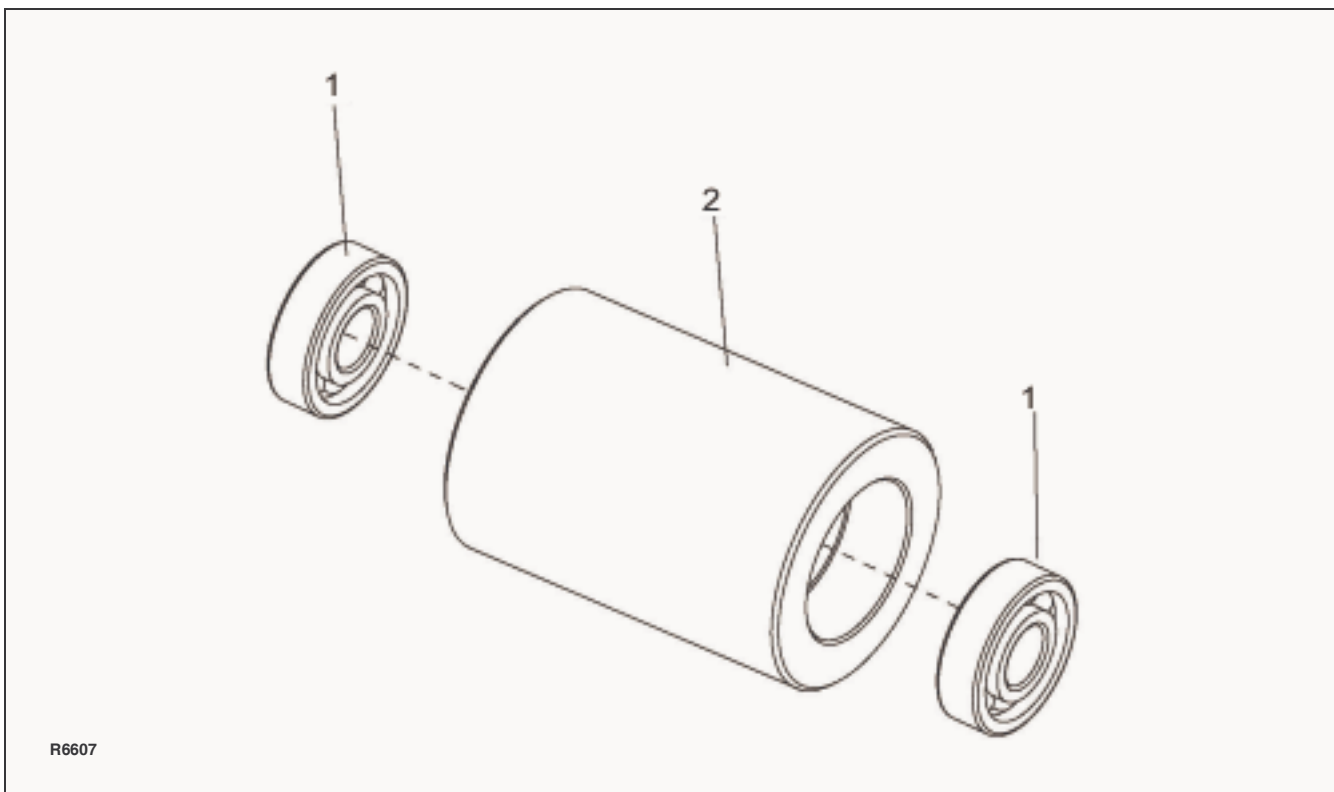

Figure 7-2 Wheel Assembly
6. Remove bearings (1, Figure 7-2) from wheels (2).
7. Inspect bearings (1) and replace if necessary.
8. Reassemble bearings (1) in wheels (2).